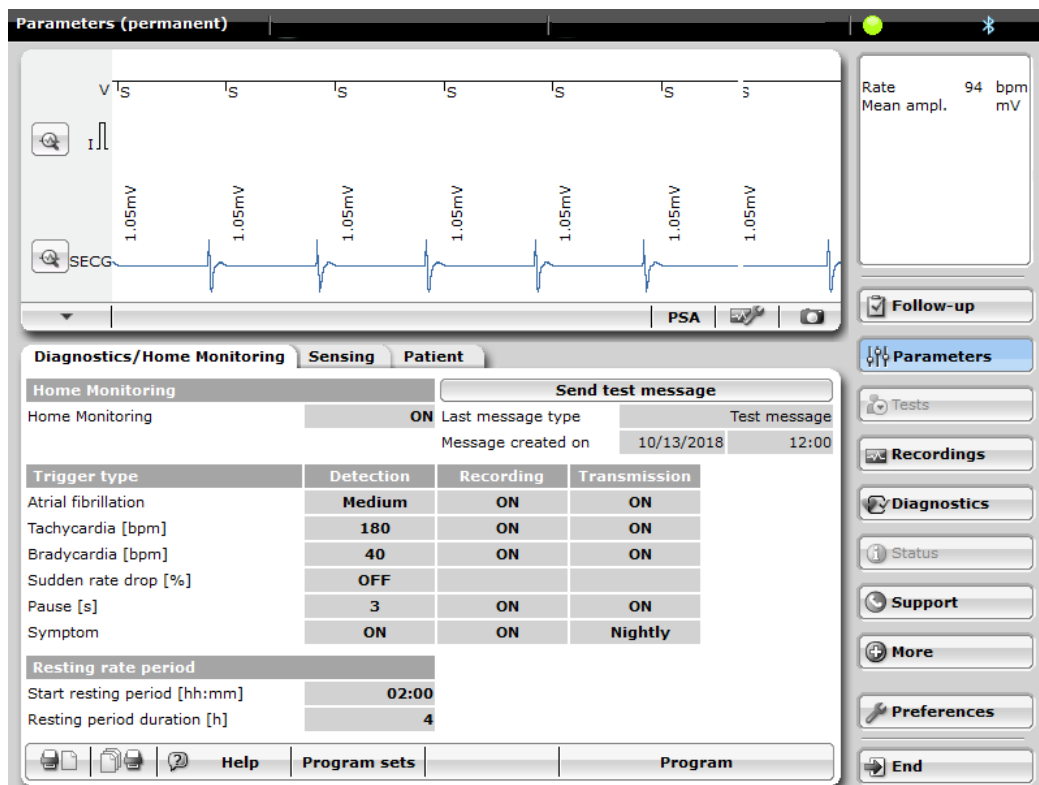

Figure 1: Main parameter screen
The Diagnostics/Home Monitoring page under Parameters, shown in Figure 1, allows set-up of the recording criteria of the device to include atrial fibrillation (AF), tachycardia, bradycardia, sudden rate drop, pause, and symptom events. With the BIOMONITOR IV, there are preconfigured programming sets that can be selected under program sets to automatically manage these recording parameters based on patient indication through the ProgramConsult. This feature, as well as the other programming options for the recording criteria will be discussed in detail below.